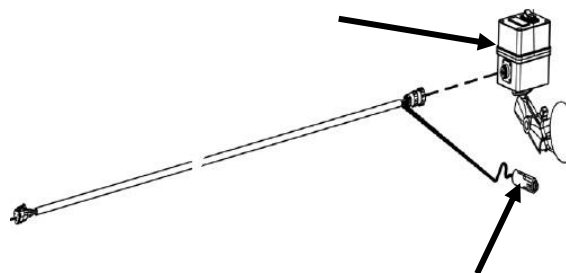

Figure 123
- Note: A dummy plug must be used in the display connector on the single point if the header does not have a tilt cylinder. Figure 123